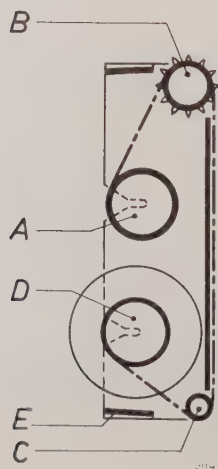

Fig. 23. Chart transport
5. Unwind the chart about 30 cm, pass it over the sprocket roller B along the front plate between the guide roller C and the connecting strip E to the winding roller D, see Fig. 23.